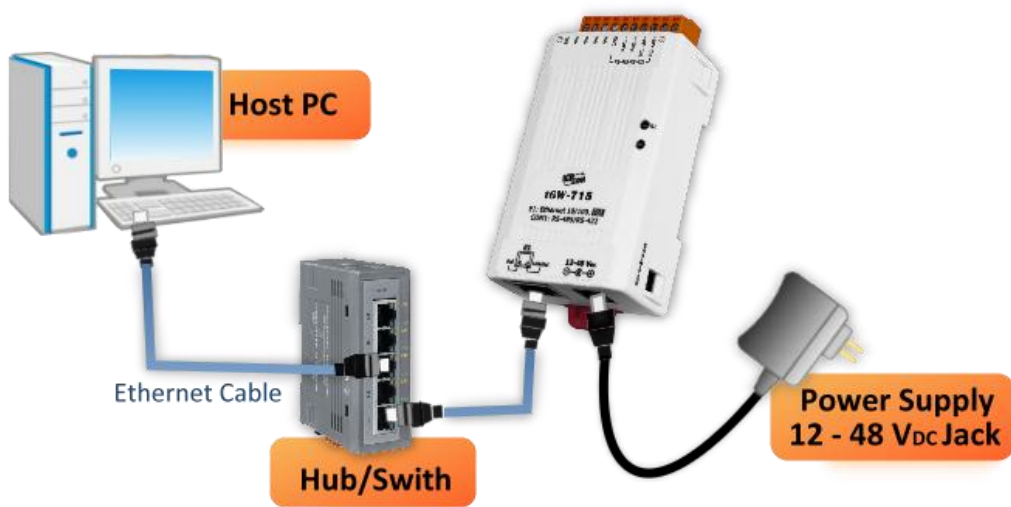

Figure 3-2
4. Connect both the tGW-700 and the Host computer to the same sub-network or the same Ethernet Switch, and then power on the tGW-700. Refer to **Figures 3-2 and 3-3** for illustrations of how to do this.